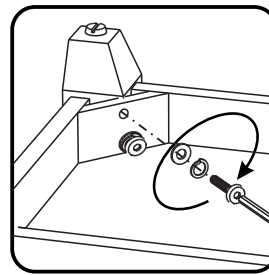

Figure 3
Attach Feet (H) to unit with Flat Washers, Spring Washers and Head Cap Bolts. (See Figure 3)